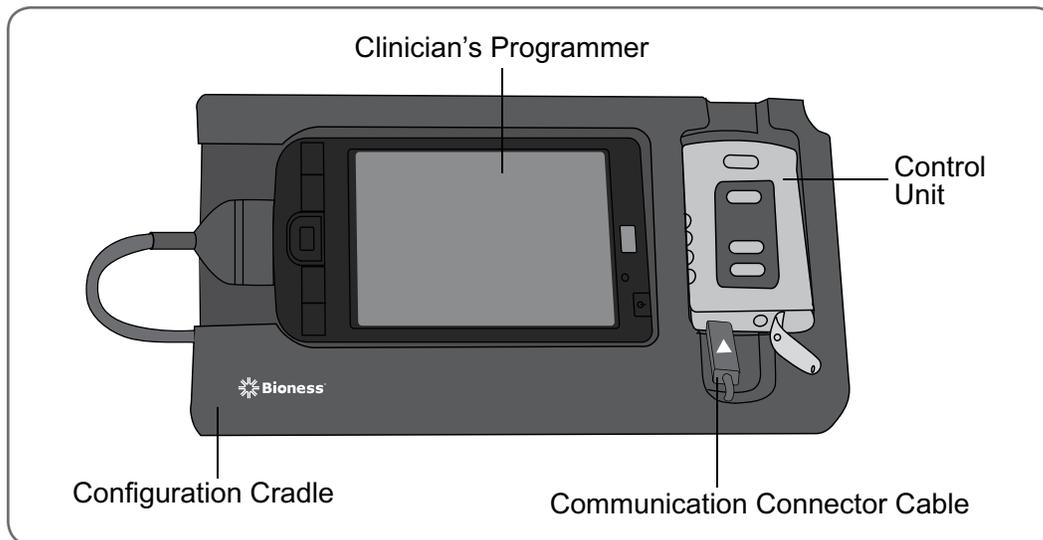

Figure 8-2: Control Unit programming set-up.
3. Insert the Control Unit into the Configuration Cradle. See Figure 8-2.